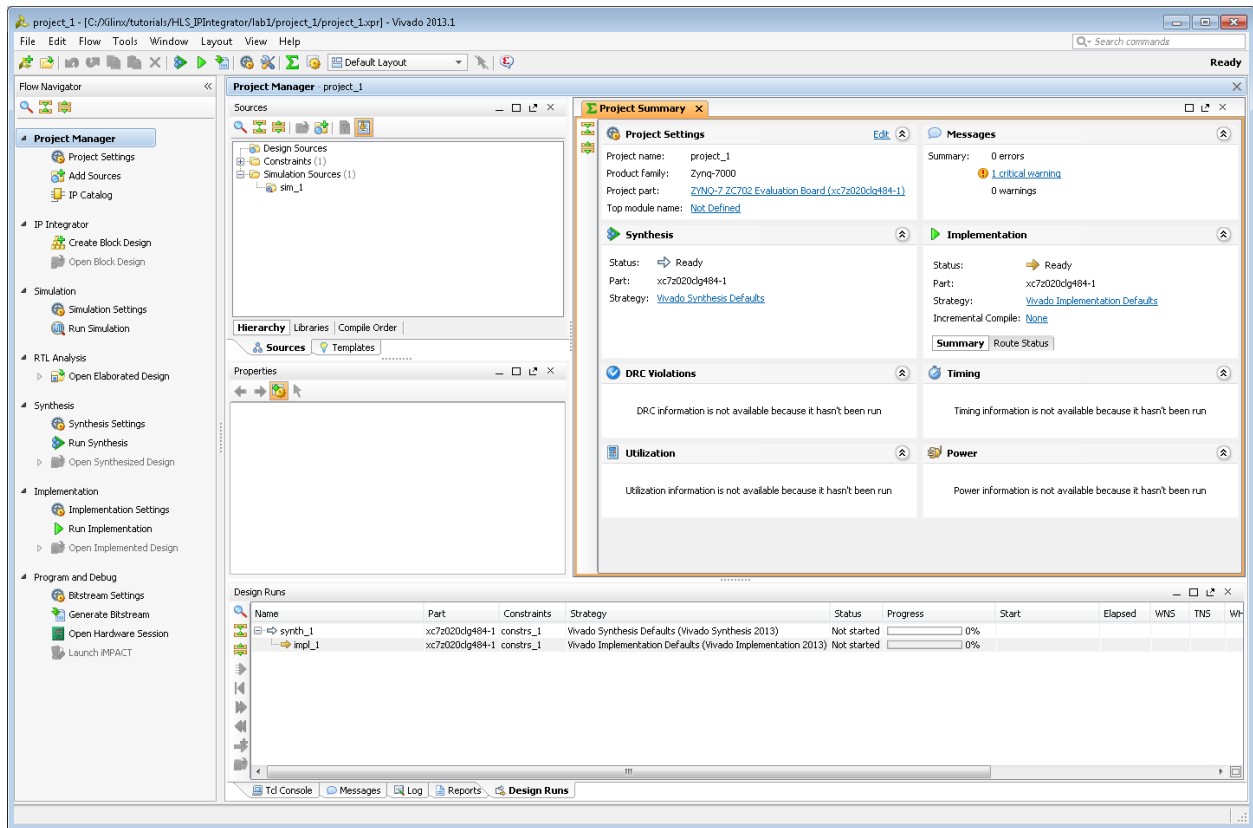

Figure 188: Vivado Project
- On the **New Project Summary Page**, click **Finish** to complete the new project setup. The Vivado workspace populates and appears as shown in Figure 188.